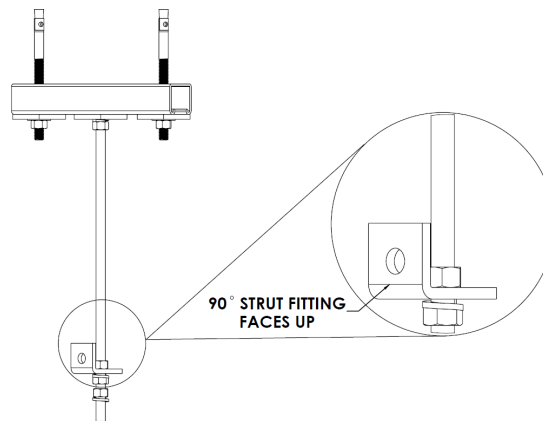

Figure 260: *90° Strut Fitting Faces Upwards*
- The two-hole 90° strut fitting should be facing upwards (Figure 260).